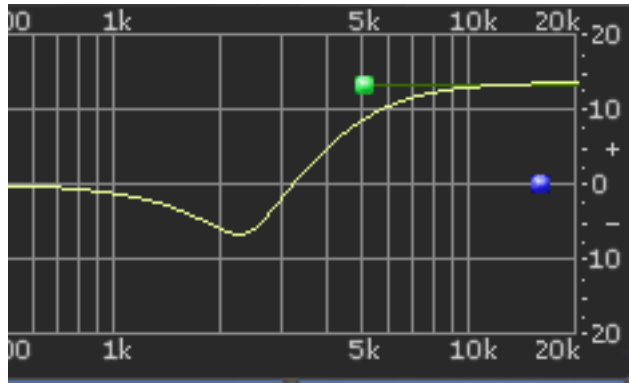
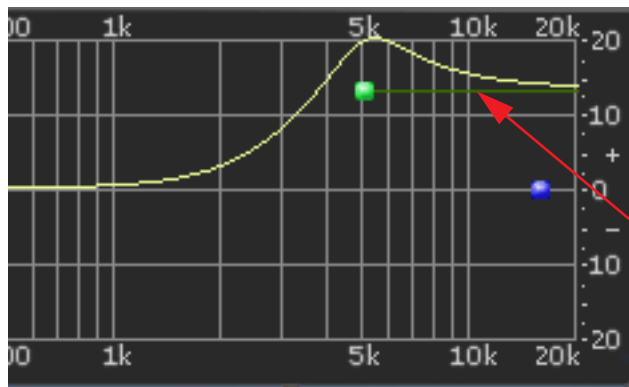
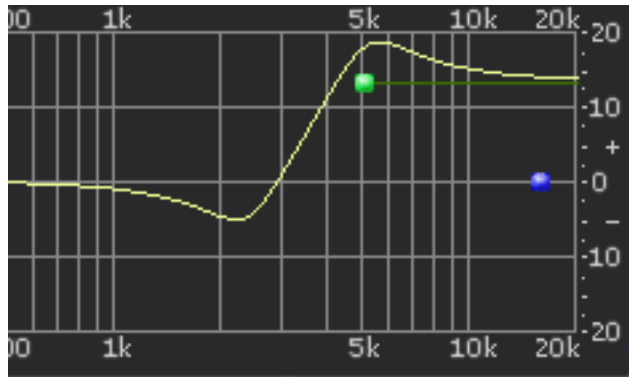

Figure 64. Shelf Type A
Figure 65. Shelf Type B
Figure 66. Shelf Type C
The button is green when shelving is enabled. Additionally, the control bar associated with the band has a horizontal shelf indicator line in the response curve display (see Figure 65 on page 209) when shelf mode is active.
The Shelf Type button places the resonant peak at (A) the edge of the stopband (Figure 64 on page 209), (B) the edge of the passband (Figure 65), or (C) at the edge of the stopband and the passband (Figure 66).